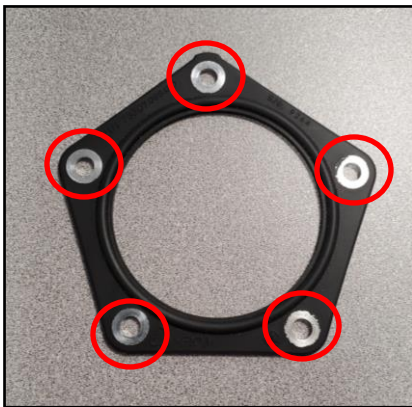
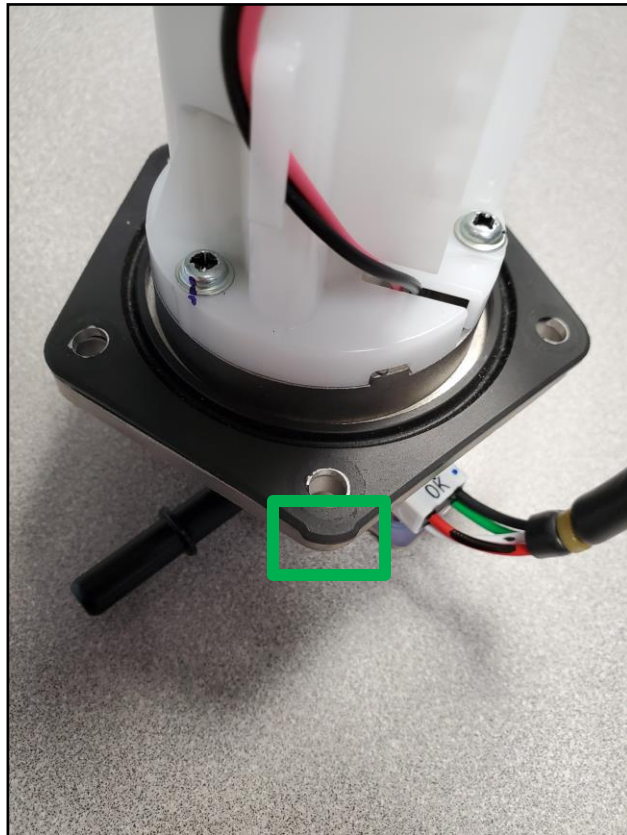

Fig. 11
Fig. 12
15. The fuel pump gasket must be installed carefully by following the pictures shown below. Make sure the silver inserts (circled in red) in the gasket face down towards the fuel pump flange (Figure 11). The gasket can only be installed one correct way, the gasket has a small tab that needs to be located with the bolt hole in between the fuel outlet and the fuel pump wiring (boxed in green) (Figure 12). This is the only way the fuel pump gasket can be installed for proper sealing.